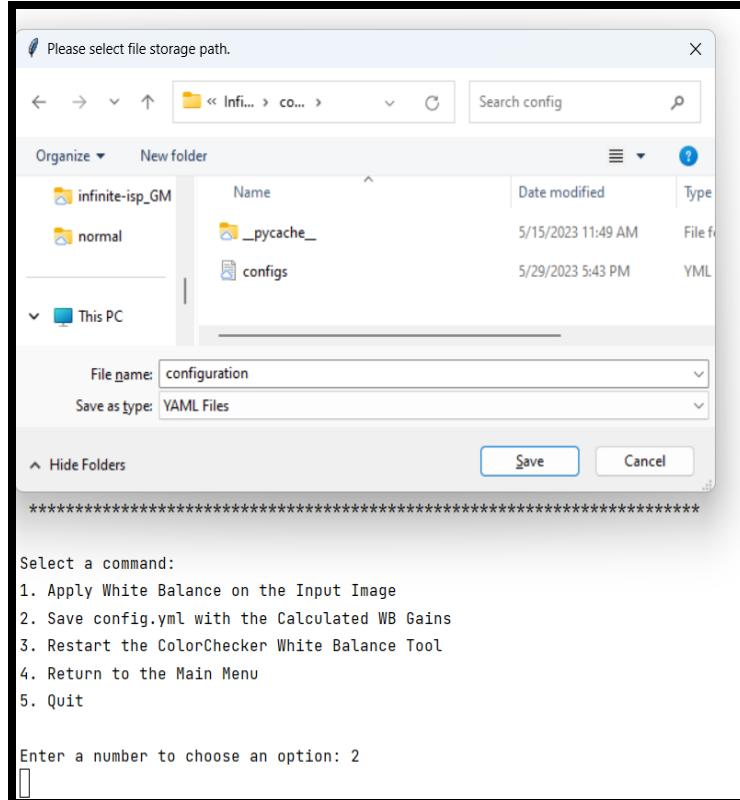

Figure 10: Example of saving data to the config file
1. After completing the module, user have the option to save the data to a configuration file. For saving data to config file a dialogue box opens up as shown in Figure 10.